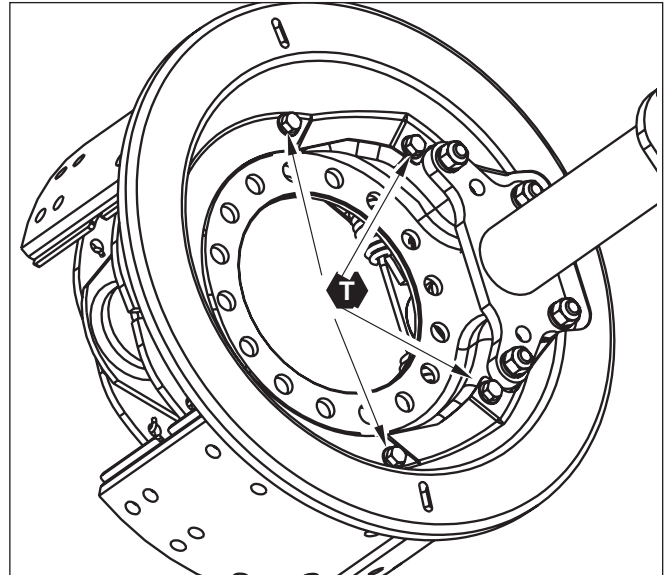

**Figure 32 – Dust Shield Mounting Hardware Removal**
2. Remove the spider-to-axle attachment nuts and bolts. Refer to Figure 32.